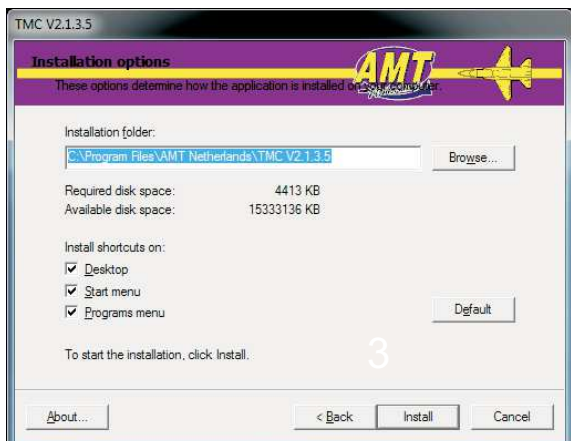

figure 8.3
7. Screen figure 8.3 will appear.